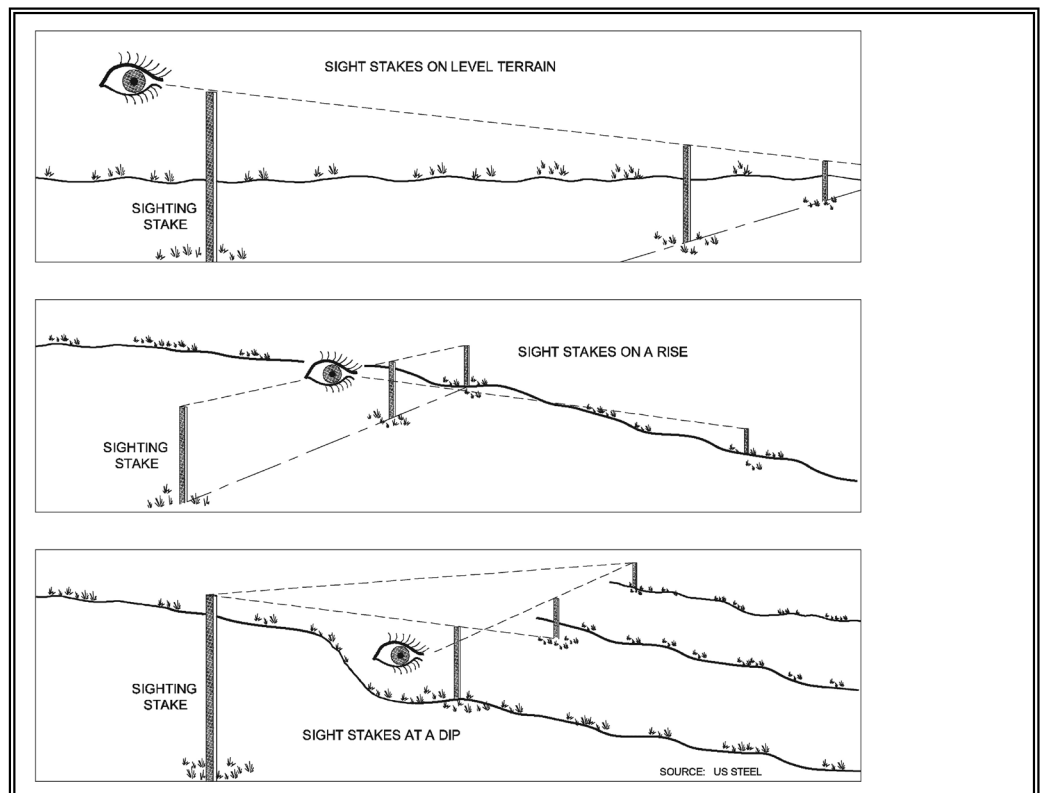

Figure 1 Fence Line Layout Using Sight Stakes
- using single flags (or sight stakes if needed), place often enough so you can stand at one and see the next - at dips or rises, extra flags or sight stakes will be required to ensure a straight fence line as shown in Figure 1, below
3. Install end, rise, dip, change of direction and gate posts. This may require the use of sight stakes as shown in Figure 1, page 2. Add pull out resistance to dip posts as needed.